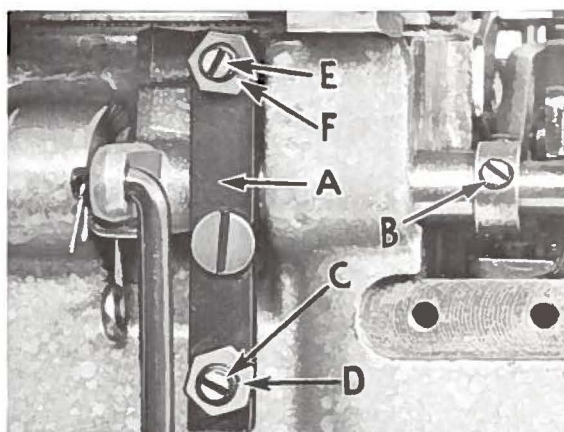

Fig. 16
Foot lifter lever arm (A, Fig. 16) and collar (B) secure the shaft. Be sure presser arm does not bind and rise when presser foot release bushing is unlocked. To center presser foot and stitch tongue with respect to throat plate needle hole, loosen presser foot hinge screw.